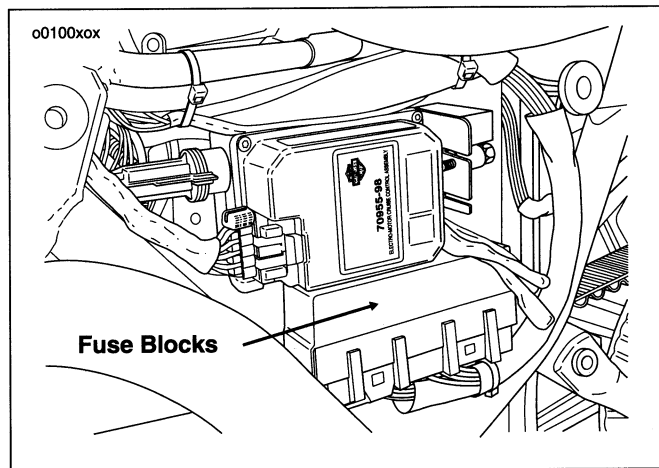

Figure 70. Left Side Cover Removed
6. See Figure 70. Gently pull side cover from frame down-tubes (no tools required). The fuses are located in the fuse block.